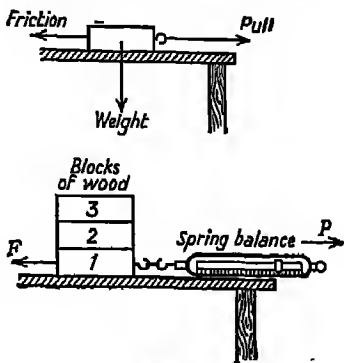

FIG. 171.
**Expt. 230.** Attach a delicate spring balance (or dynamometer) by means of a string to a hook in a block of wood having rectangular faces. Let the adjacent faces be unequal in area. Arrange the apparatus on a table as shown in Fig. 171. Pull the dynamometer gently and note the reading when the block just begins to move. Continue pulling, and note the reading as the block slides slowly along the surface of the table. Put another similar block on top of the first and repeat the readings. Repeat, with a third block on top of the second. Now turn the block on another face and arrange the hook so that the dynamometer is pulling in the same direction as in the previous experiments. Repeat all the previous readings. Repeat the experiments with blocks made of glass and metal. Tabulate your readings as shown on the next page.